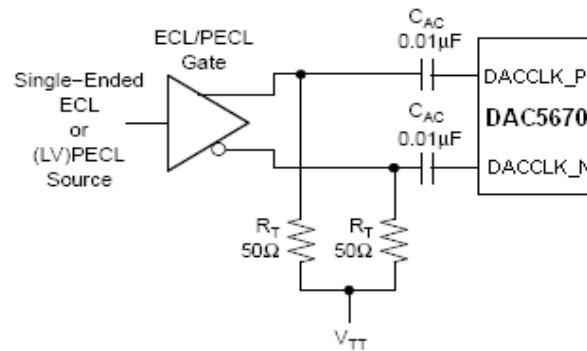
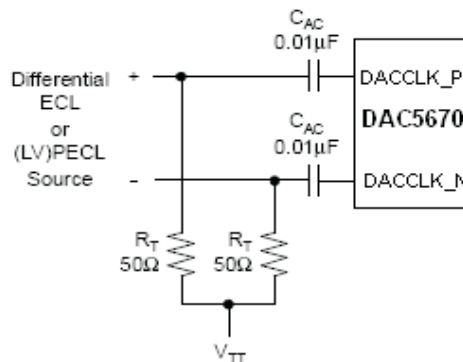
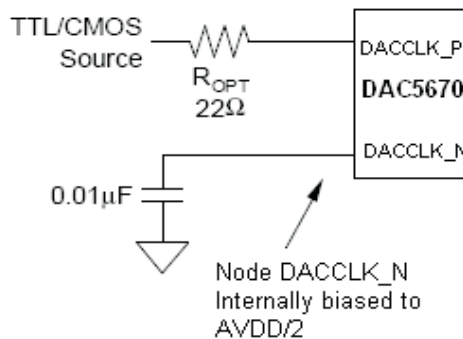

Figure 18. Driving the DAC5670 with a Single-Ended ECL/PECL Clock Source
Figure 19. Driving the DAC5670 with a Differential ECL/PECL Clock Source
Figure 20. Driving the DAC5670 with a Single-Ended TTL/CMOS Clock Source
To obtain best ac performance the DAC5670 clock input should be driven with a differential LVPECL or sine wave source as shown in Figure 18 and Figure 19. Here, the potential of VTT should be set to the termination voltage required by the driver along with the proper termination resistors (RT). The DAC5670 clock input can also be driven single-ended for slower clock rates using TTL/CMOS levels; this is shown in Figure 20.